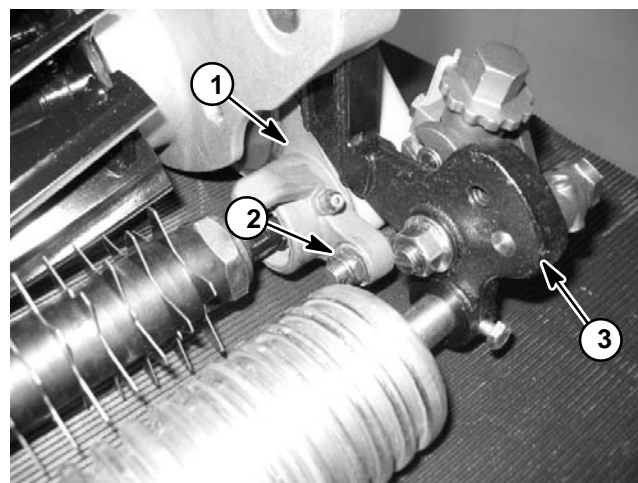

Figure 15
C. Remove lock nut and spring washer that secure groomer arm lift rod to non-drive groomer side plate (Fig. 15). Remove non-drive groomer side plate from mower.
B. Apply antiseize lubricant to threads of lift arm assembly stud. Place spring washer and lock nut on lift rod threads (Fig. 15). Tighten lock nut.